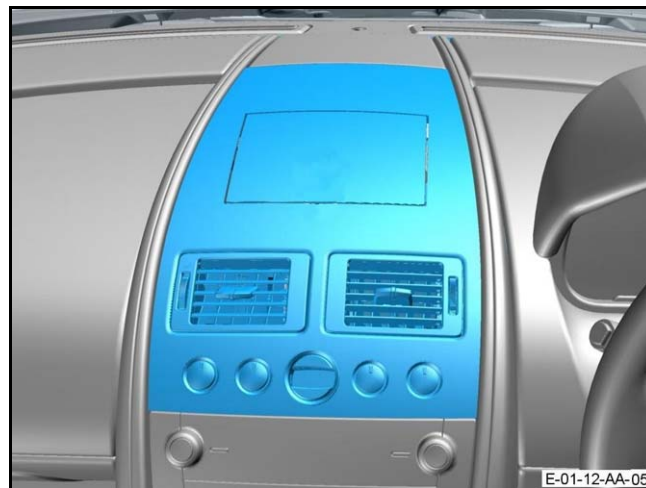

Figure 7
10. Put the instrument panel into position (refer to Figure 7).